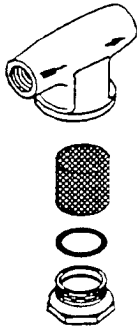

Figure 2-12. Water Strainer
3. When installing the water strainer(s), refer to Figure 2-12.